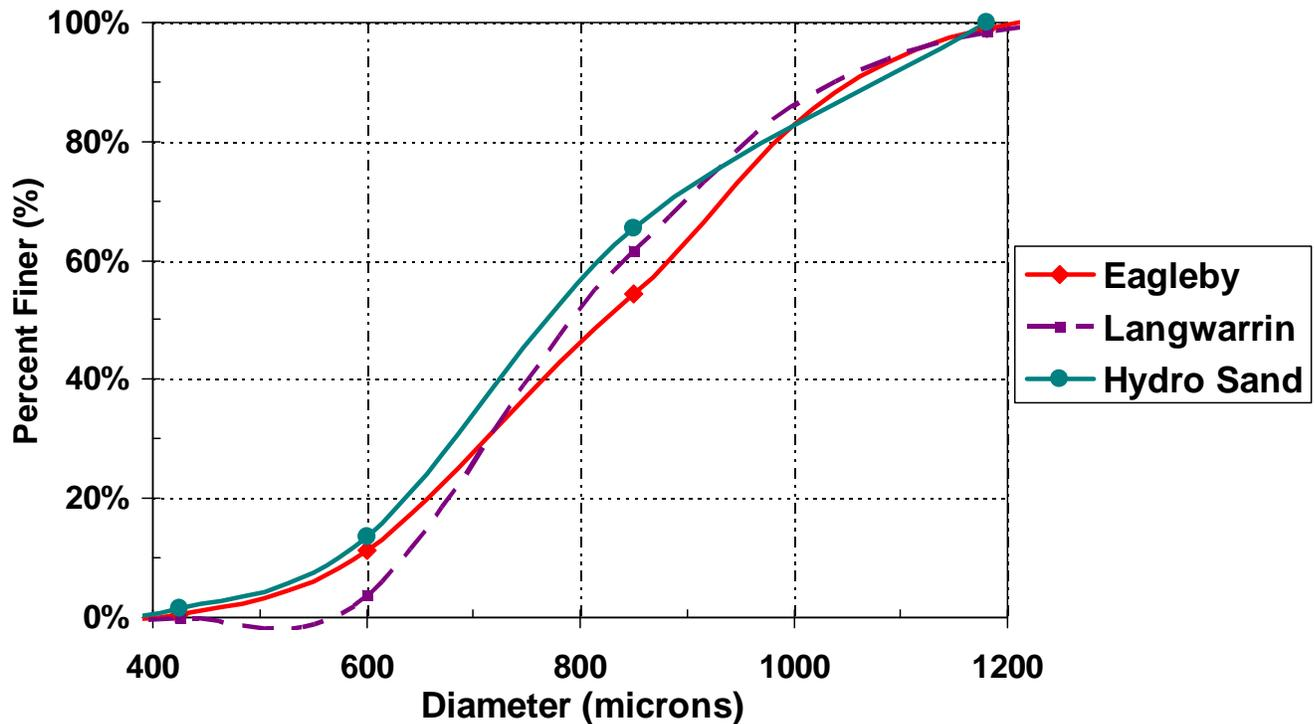

Figure 1 – Particle size distribution of filter sand used as media
Two (2) bags of the filter sand were filled to the required volume and placed into the Up-Flo® Filter Module. The particle size distributions of Eagleby Filter Sand, Langwarrin Filter Sand and Hydro Filter Sand are shown in Figure 1. The gradations range from 300 microns to over 1180 microns. Only a small portion of each media, if any, falls above 1180 microns.  $D_{50}$  values for Eagleby Filter Sand and Langwarrin Filter Sand are 820 and 790 microns respectively and both are greater than the 765 microns for the Hydro Filter Sand. Eagleby Filter Sand and Hydro Filter Sand have a small portion of fines less than 600 microns not seen in Langwarrin Filter Sand. Information on the Hydro Filter Sand is added for comparative purposes. The Hydro Filter Sand is one of the media types supplied by Hydro International in the US for removing fine particulates from stormwater runoff.